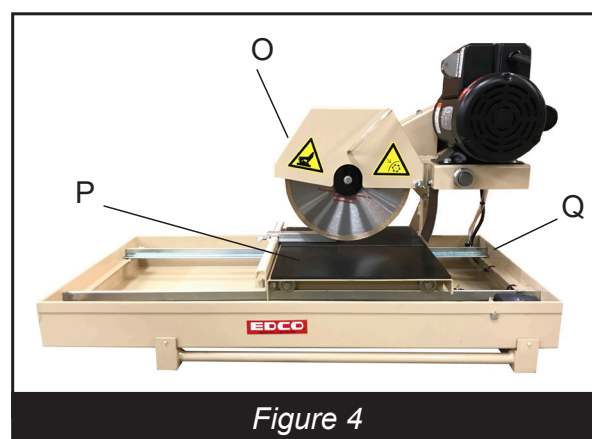

Figure 4
- When loading or unloading the saw, use caution. Make sure rolling table is locked using the table lock so that the blade will not be damaged. (Figure 4, Item Q) Do not move the saw while the engine is running.